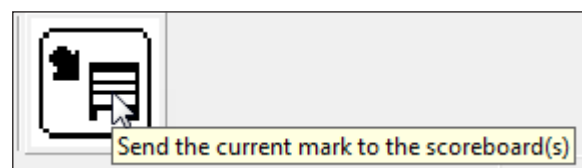

Figure 71: Send Mark
9. With an event open in FieldLynx, click the button shown in **Figure 71** to output the mark data.